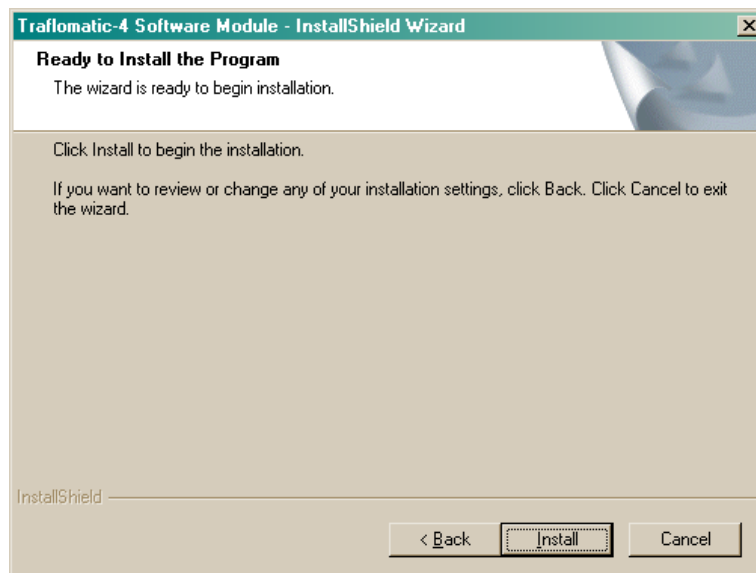

Figure 17
5. The **Ready to Install the Program** window will now appear as in Figure 17. This window informs the user that the installation is ready to begin and instructs the user to select the Install pushbutton to begin the software installation process. At this time select the **Install** pushbutton with the PC's pointing device.